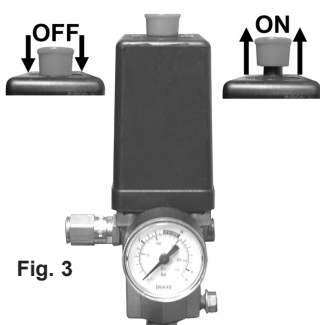

Fig. 3
- 4.1. Make sure the main switch (fig. 3) is in the "Off" position.
- 4.4. To stop the compressor, press the main switch to 'off' (fig. 3). The compressed air inside the compressor head will flow out, making the restart easier and preventing the motor from being damaged. **DO NOT**, other than in an emergency, stop the compressor by switching off the mains socket, or by pulling the plug out, as the pressure relief will not occur and motor damage may result upon restart.